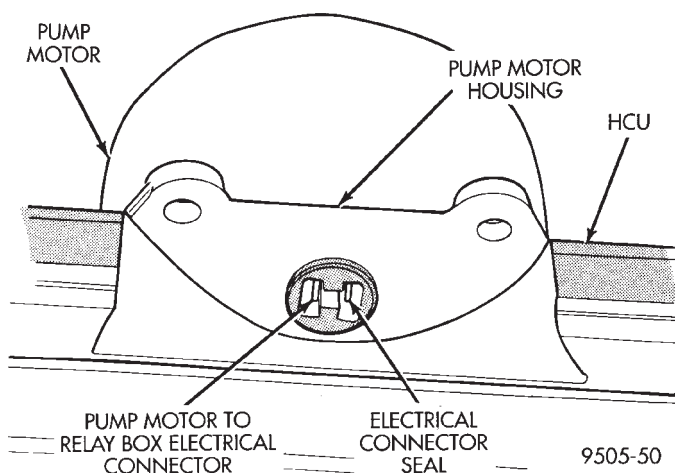

**Fig. 27 Pump Motor To Relay Box Electrical Connection Seal**
(1) Be sure electrical connector seal (Fig. 27) is installed in pump motor housing before installing relay box. If electrical connector seal is cracked, brittle or in any way damaged it must be replaced before installing relay box.